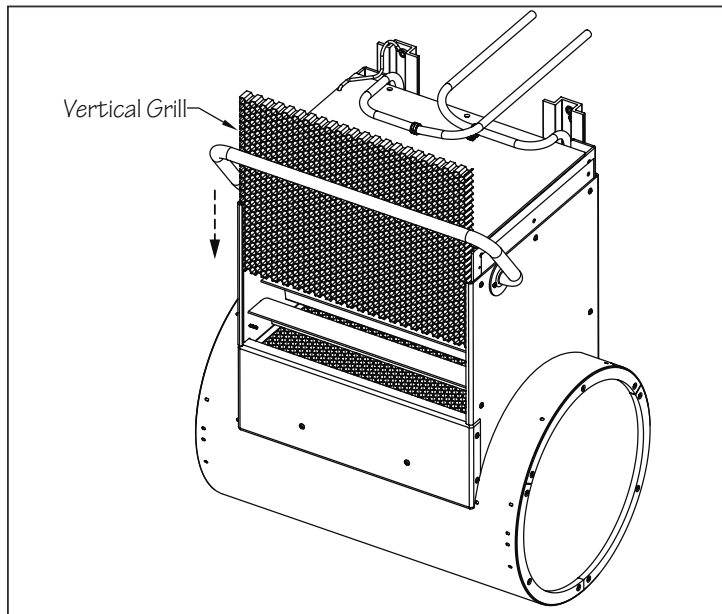

Fig. 6.3
6.4 Reinstall the vertical water-conditioning grill (Fig. 6.3).